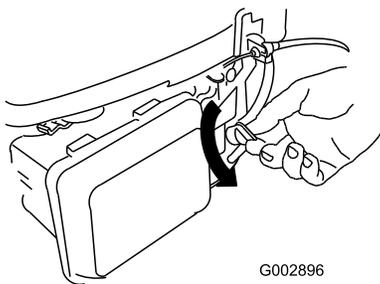

Figure 13
1. Turn the fuel valve lever to the On position (Figure 13).